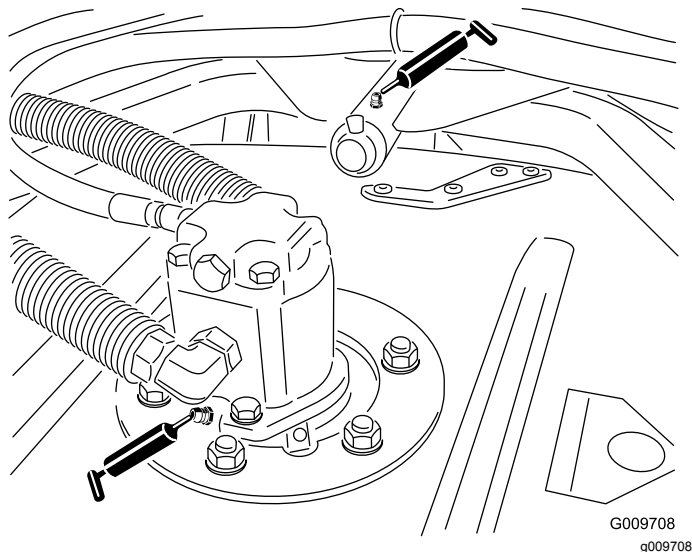

Figure 79
- Cutting-unit spindle-shaft bearings (2 per cutting unit) as shown in Figure 79
- Cutting-unit carrier-arm bushings (1 per cutting unit) as shown in Figure 79